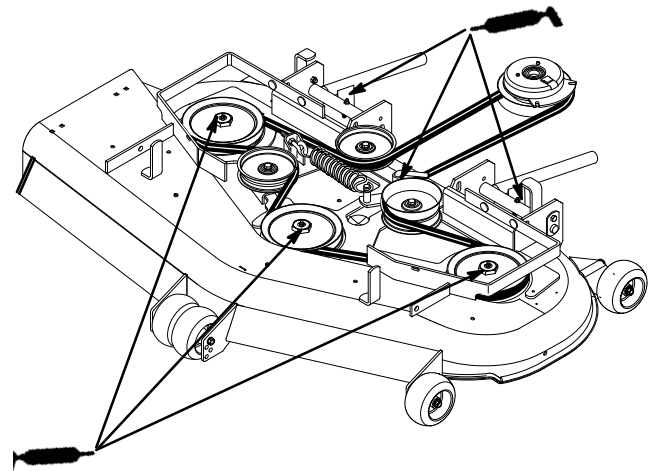

Figure 35
2. Grease the fittings on the three spindle bearings (Fig. 35).
3. Grease the idler pulley pivot (Fig. 35).
4. Grease the fittings on the push arms (Fig. 35).